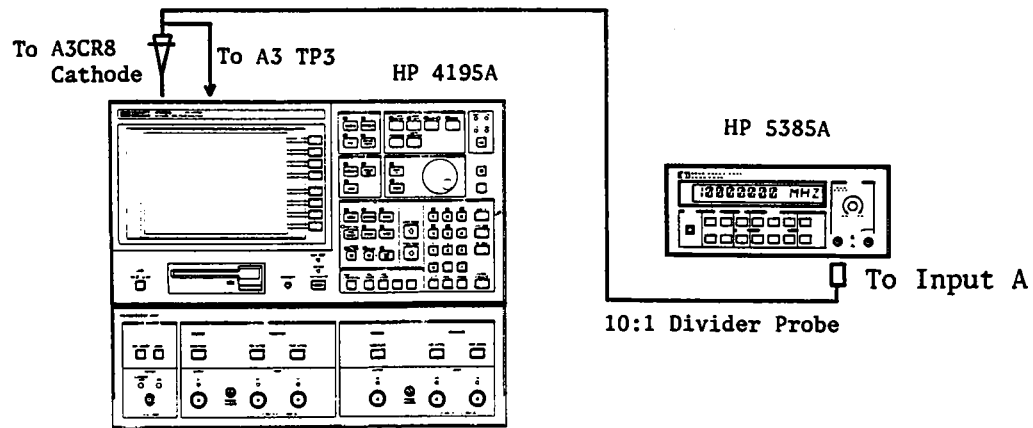
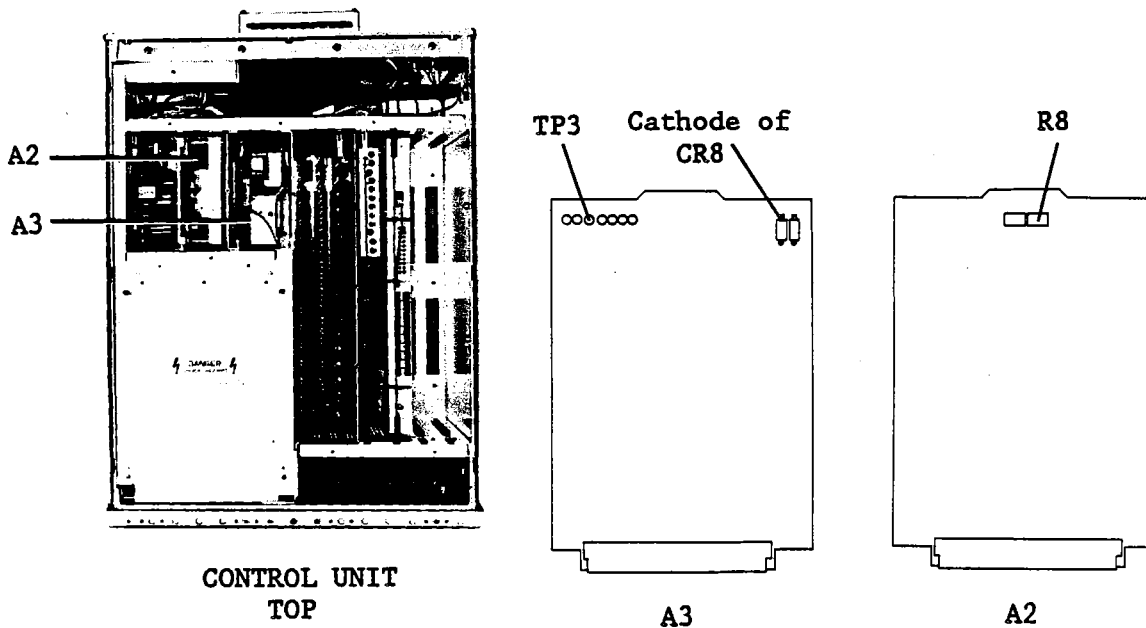

Figure 3-2. Switching Frequency Adjustment Setup
Figure 3-3. Switching Frequency Adjustment Locations
3. Connect the Probe ground lead to A3TP3, and the probe tip to the A3CR8 cathode as shown in Figure 3-2 and Figure 3-3.